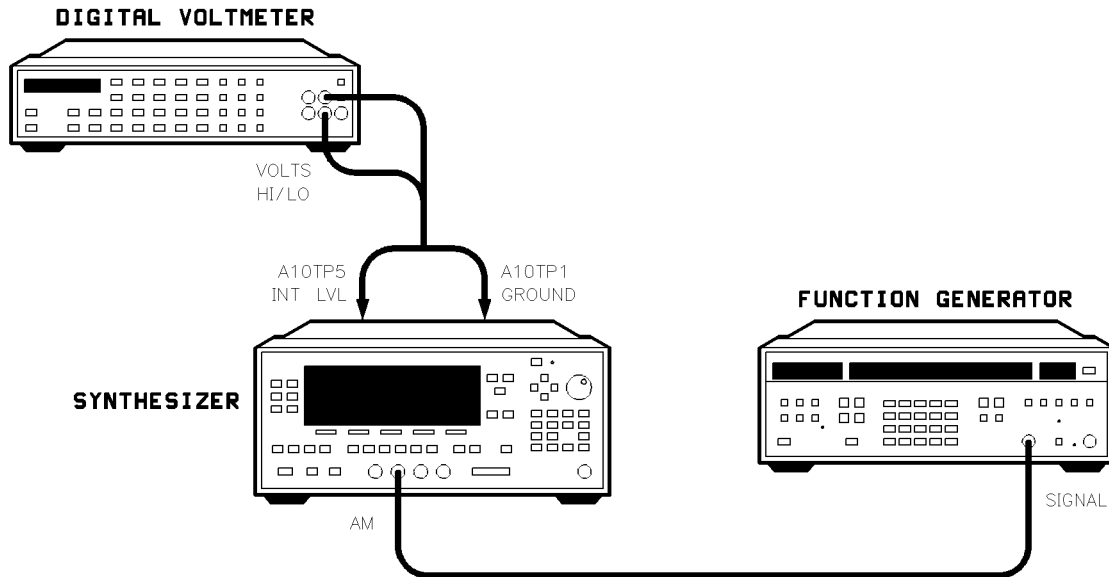

Figure 3-31. AM Delay Adjustment Setup
1. Preset the instruments shown in Figure 3-31 and let them warm up for at least one hour.
3. Connect the equipment as shown in Figure 3-31.